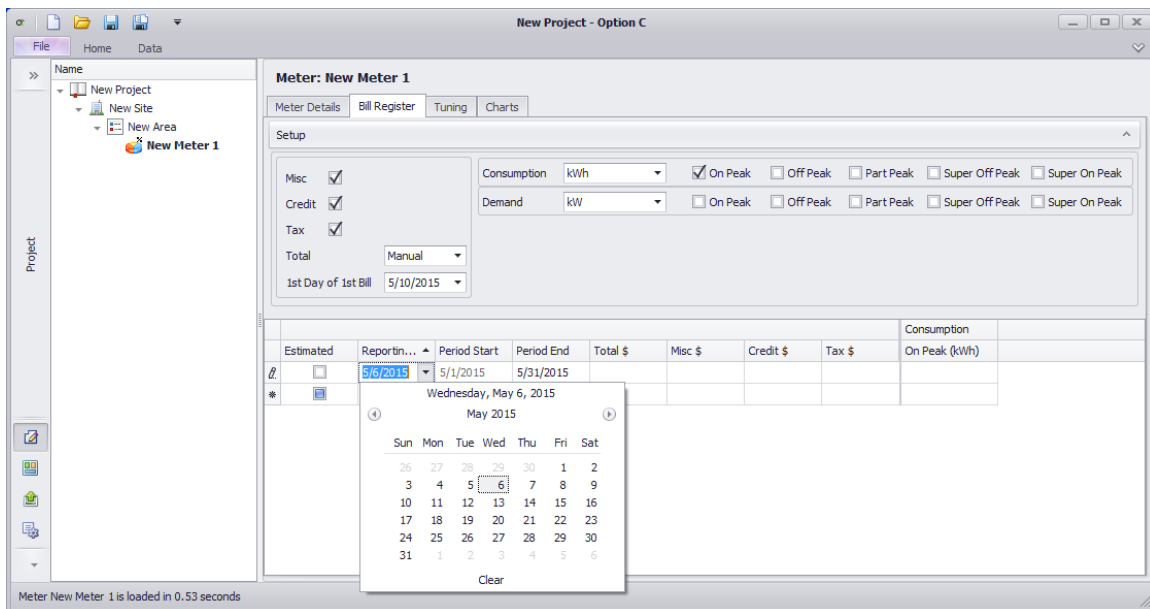

Figure 3.14: Pop-up calendar to enter Reporting Month.
- Reporting Month: The reporting month can be manually entered or selected from the pop-up calendar (see Figure 3.14).